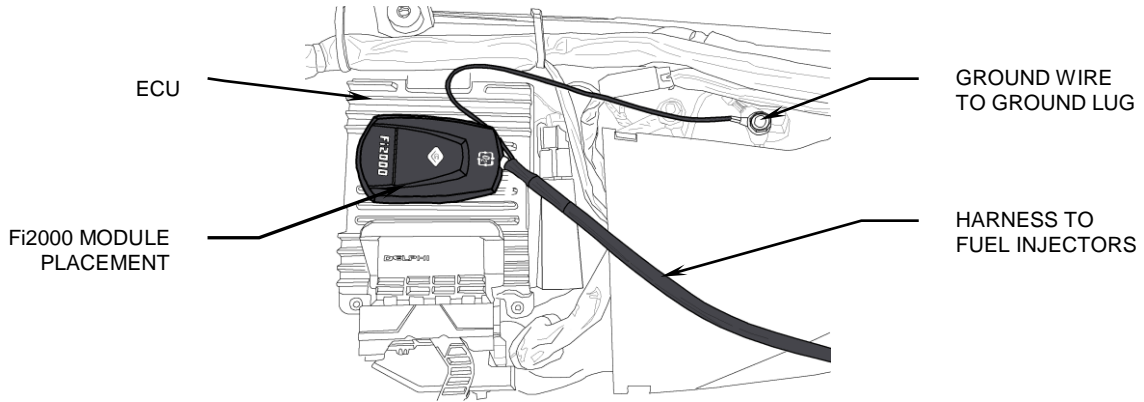

FIGURE 1
2. Place the Fi2000 module on top of the ECU, see Figure 1.
9. Attach the ground wire to the ground lug and Velcro the Fi2000 module to the top of the stock ECU, see Figure 1.
10. Before lowering the fuel tank, and replacing the seat, verify your connections. Remove the door from the Fi2000 box to expose the LED's. Verify the wire connections by (1) turning the ignition on, prior to starting, and see if all three LED's are on steady. If you have no light, your ground connection (BLACK wire) has not made proper contact or your front injector connection is not complete. (2) After achieving a steady light from all three LED's, start the motorcycle, wait 15 seconds and let it idle, the green light should now be the only LED on. If all three LED's are still on after start up, verify you have attached the injector connectors correctly. Reattach the door when finished. **Note:** Make sure the ignition is turned off before changing any connection.